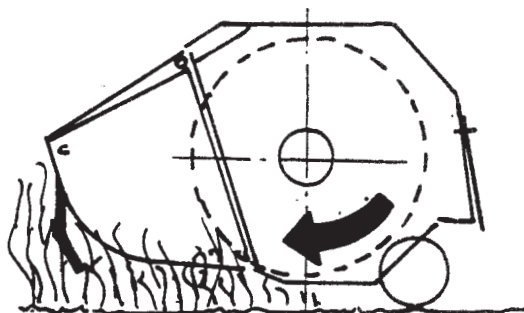

Fig. 28
- To cut grass, the rotational direction is as shown in FIG. 28.